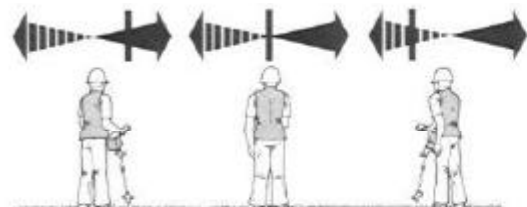

Figure 3-2: Checkout of Receiver Directional Meter
- 8 Point the Receiver to the left and right of the Transmitter center line. The needle should follow the change in direction (solid arrow and continuous tone when you move right, broken arrow and broken tone when you move left). See Figure 3-2.